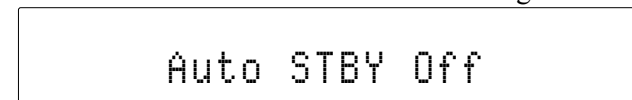

Figure 44
1. Using the MCT450 Remote Control, press and hold in the ⏻ (Power) Push-button for about 5-10 seconds, at which time the Front Panel Display indicates "Auto STBY Off". Refer to figure 44.